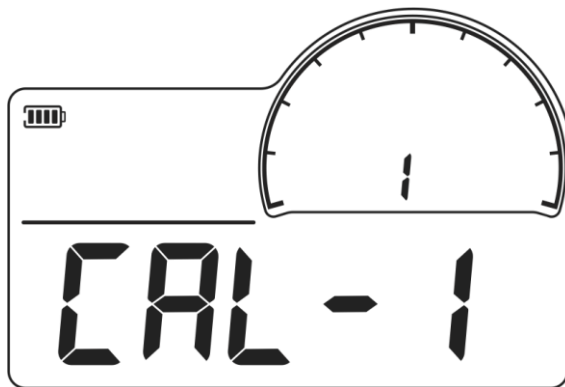

Figure 25 Calibration status menu
5. Now the calibration is completed, return to calibration status menu and it will show CAL-1, which indicates the calibration takes effect. As shown in Figure 25.